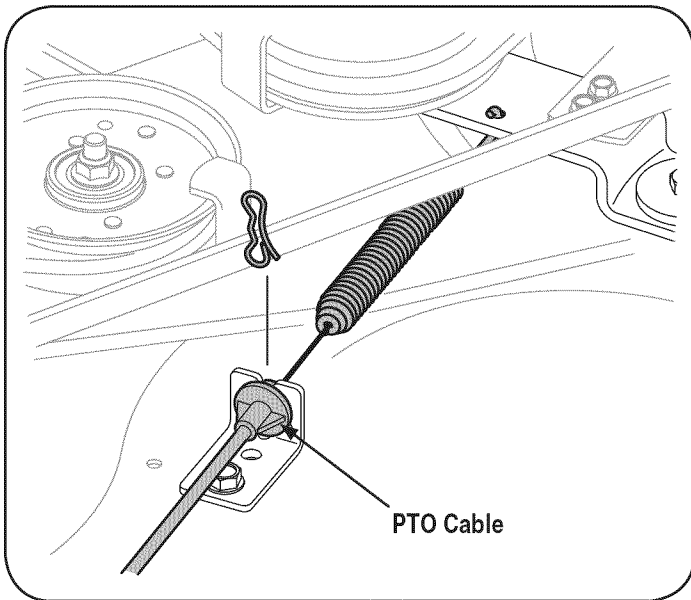

Figure 22
9. Carefully remove the PTO cable from the rear of the cutting deck by removing the bow-tie cotter pin which secures it. Remove the spring from the deck idler bracket. See Fig. 22.